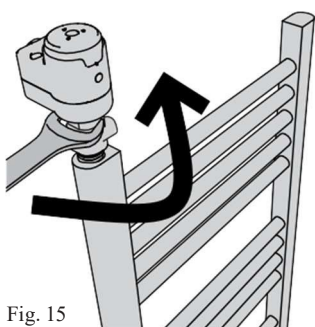

Fig. 15
4. Using a 27 mm spanner unscrew the T-piece with screwed the element, rotating it anticlockwise until T-piece thread is completely off from towel rail $\frac{1}{2}$ "GAS female thread (Fig. 15).